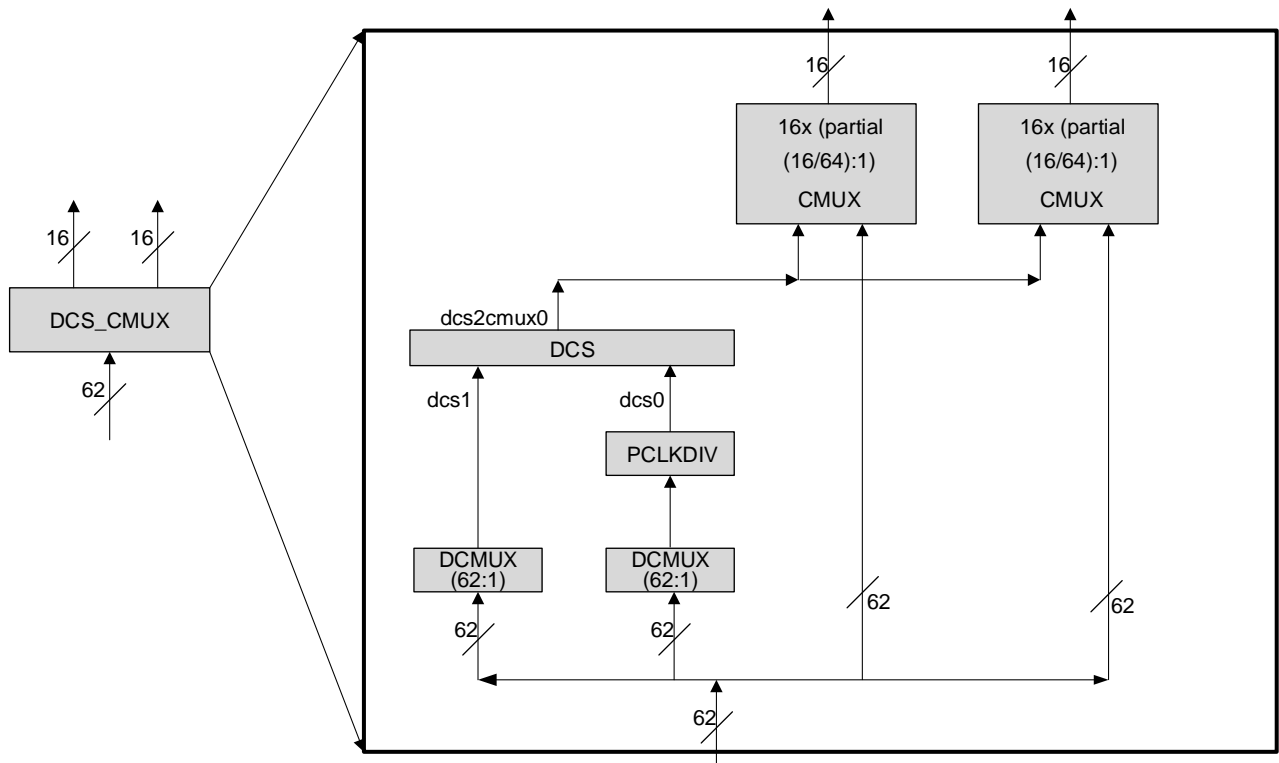

Figure 2.8. DCS_CMUX Diagram
The PCLKDIV supports $\div 2$, $\div 4$, $\div 8$, $\div 16$, $\div 32$, $\div 64$, $\div 128$, and $\div 1$ (bypass) operation. The PCLKDIV is fed from a DCSMUX within the DCS_CMUX block. The clock divider output drives one input of the DCS Dynamic Clock Select within the DSC_CMUX block. The Reset (RST) control signal is asynchronous and forces all outputs to low. The divider output starts at next cycle after the reset is synchronously released. The PCLKDIV is shown in context in Figure 2.8.
All clock sources are selected and combined for primary clock routing through the Dynamic Clock Selector Center Multiplexer logic (DCS_CMUX). There are one (1) or two (2) DCS_CMUX blocks per device. Each DCS_CMUX block contains 2 DCSCMUX blocks, 1 PCLKDIV, 1 DCS block, and 1 or 2 CMUX blocks. See Figure 2.8 for a representative DCS_CMUX block diagram.